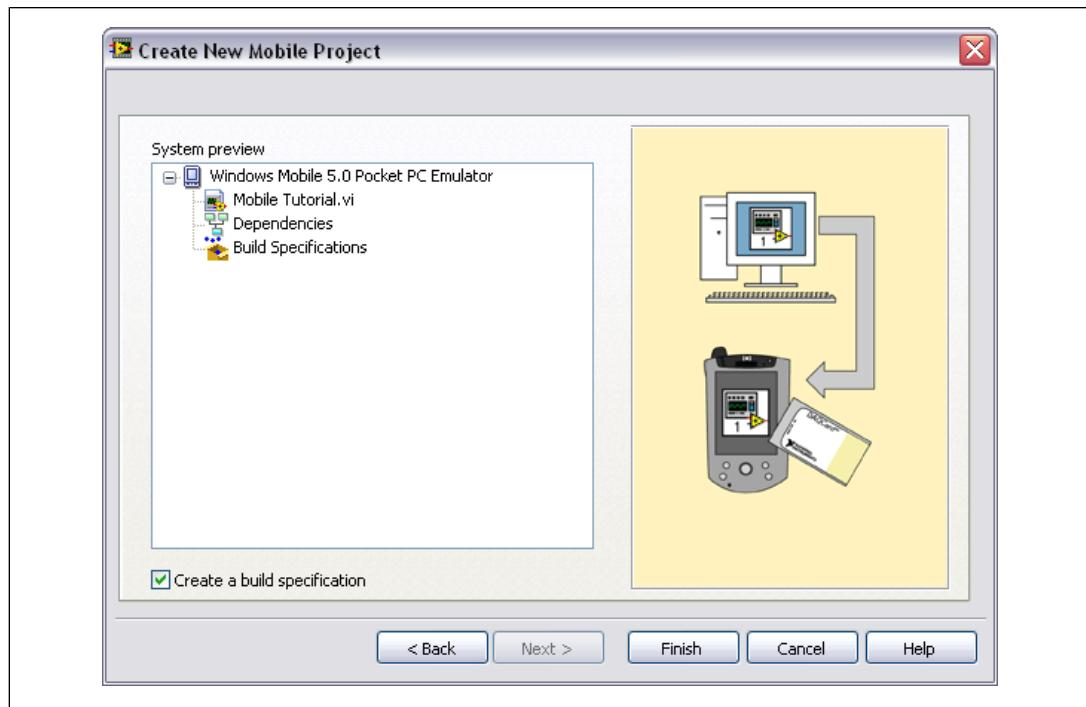

Figure 3. Previewing the Project
6. Click the **Finish** button. Because the **Create a build specification** checkbox contains a checkmark, as shown in Figure 3, the **Mobile Build Specification Properties** dialog box opens. Refer to the *Creating the Build Specification* section for more information about creating a build specification.